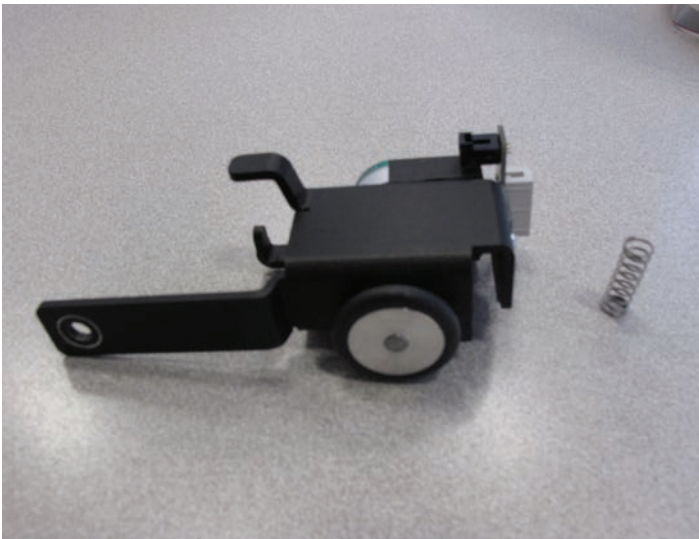

Figure 3, Black Stitch-Regulation Encoder
**Step 2:** Remove the encoder assembly. It will be remounted in the same position (P-pod, rear side of machine), but with the new Precision-Glide Wheel and washers. **Note: The machine will have either a black Stitch-Regulation encoder or a silver Stitch-Regulation encoder. Both encoders mount the same way (Figures 3 & 4).**